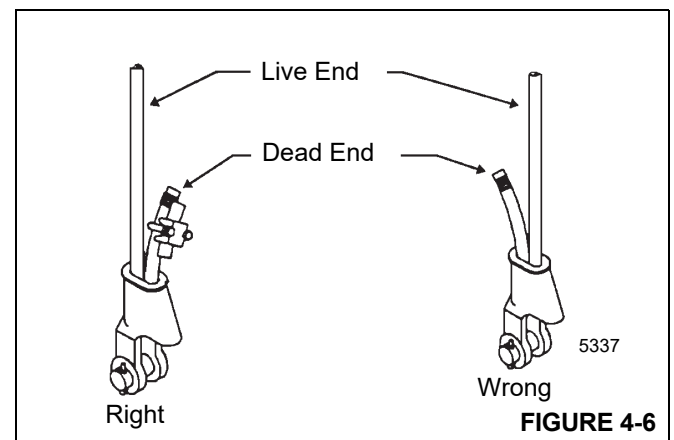

FIGURE 4-6
3. Make sure the live-loaded side (Figure 4-6) of the rope is directly in line with the ears of the socket and the direction of pull to which the rope will be subjected. If the rope is loaded into the socket incorrectly, under a load